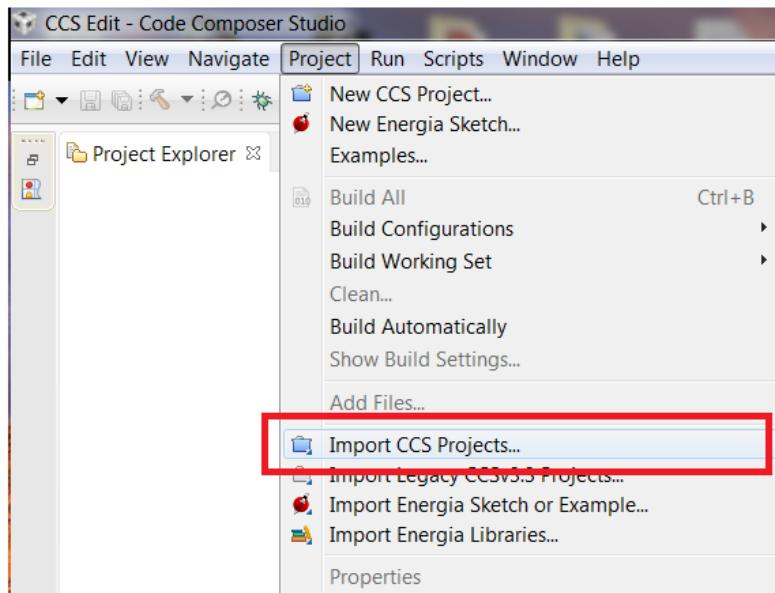

Figure 2. CSS Project Tab
1. Open CCS and select the Project tab, then select the option Import CCS Projects... (see Figure 2).